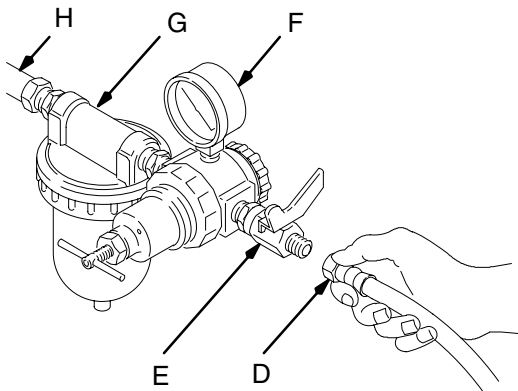

Fig. 2 01990
- You must install an air pressure regulator (F) on the gun air line to control air pressure to the gun. See Fig. 2.
- *If your regulated air source does not have a filter, install an air filter (G) on the air line to ensure a dry, clean air supply to the gun. Dirt and moisture can ruin the appearance of your finished workpiece. See Fig. 2.*
- A. Connect the air hose (D) to the 1/4 npsm gun air inlet (C).
- B. Connect the other end of the air hose (D) to a regulated air supply line (H).
NOTE: Fig. 2 shows the filter (G) air regulator (F), and air shut-off valve (E) on the air supply line.